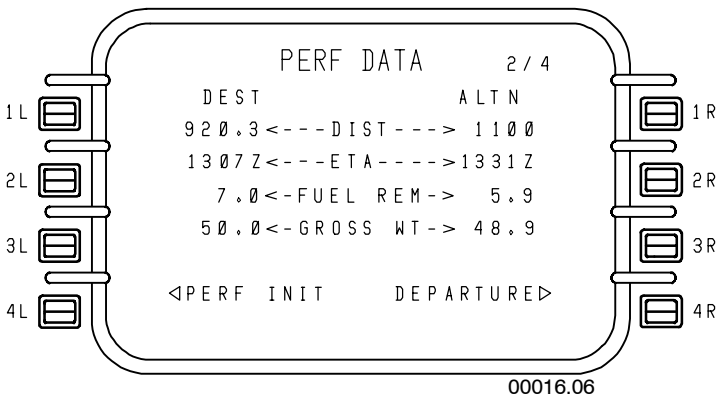

Figure 4-32
- **PERF DATA 2/4** - Figure 4-32 displays the following: